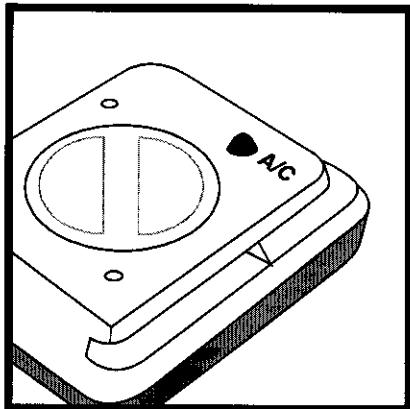

Fig. 24
1. Press All Clear on the back of the computer (Fig. 24) to erase all information including wheel size. Please note your settings before performing this operation.